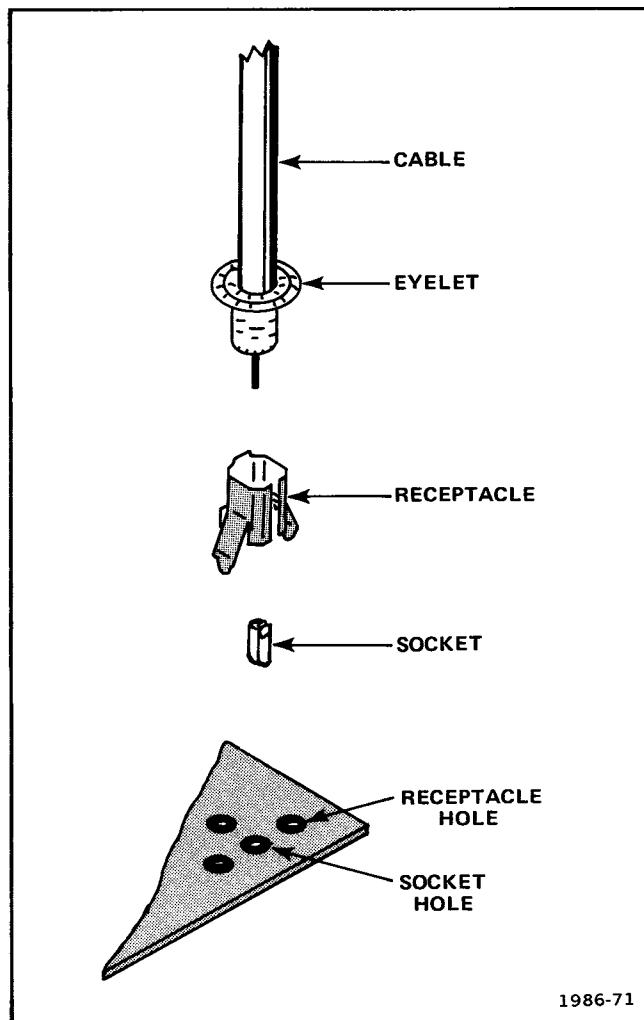

Fig. 4-8. Coaxial end-lead connector assembly.
4. Note wire color on single-conductor shielded cables (see Figure 4-8 for identification) and connector to which each is attached.
Three methods of interconnection are used to connect the circuit boards with other boards and components. When the interconnection is made with a coaxial cable, a special end-lead connector plugs into a socket on the board (Figure 4-8). When the interconnection is made with a wire lead, an end-lead connector is used which mates with the interconnecting pin soldered into the board (Figure 4-4). When the interconnection is made between adjacent boards, an inter-board multi-pin connector is used (Figure 4-3). The following information provides the removal and replacement procedure for the various types of interconnection methods.